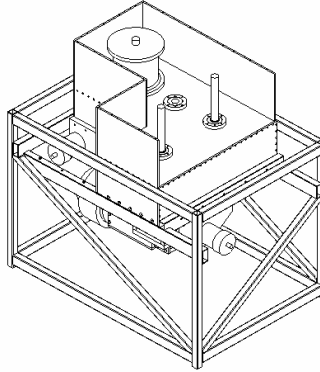

Figure 4
1. With the top plate removed and the spool shafts exposed place one of the spools on one of the shafts as seen in figure 4 below.